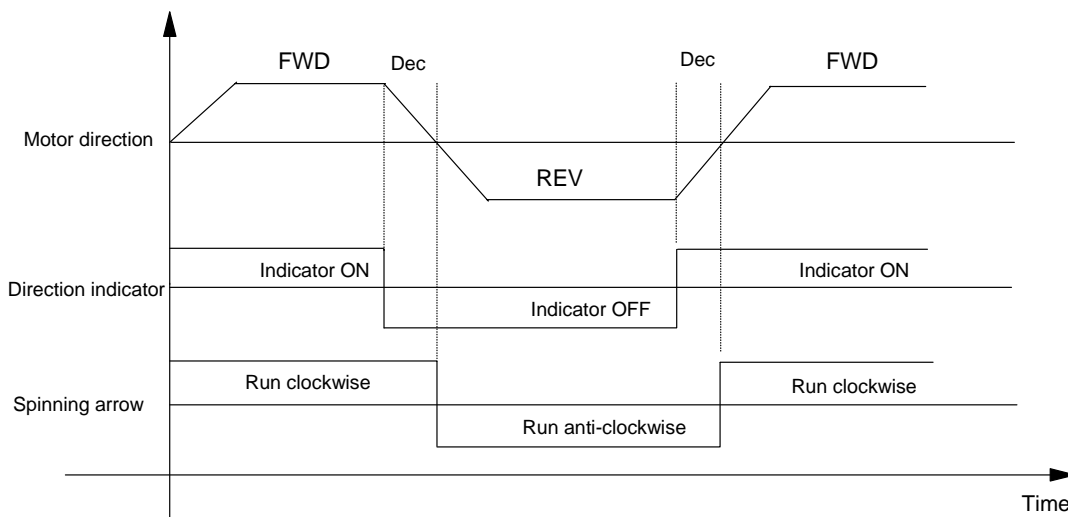

Figure 4-6 Sequences of direction indicator and running direction indication
3. When the inverter is in the panel running control mode, pressing the FWD/REV key gives the direction change command, and the direction indicator will change accordingly. However, due to mechanical inertia, the actual direction of the motor does not change immediately, so does the spinning arrow which reflects the actual direction. Therefore the directions indicated by the direction indicator and the spinning arrow may be different. See Figure 4-6.